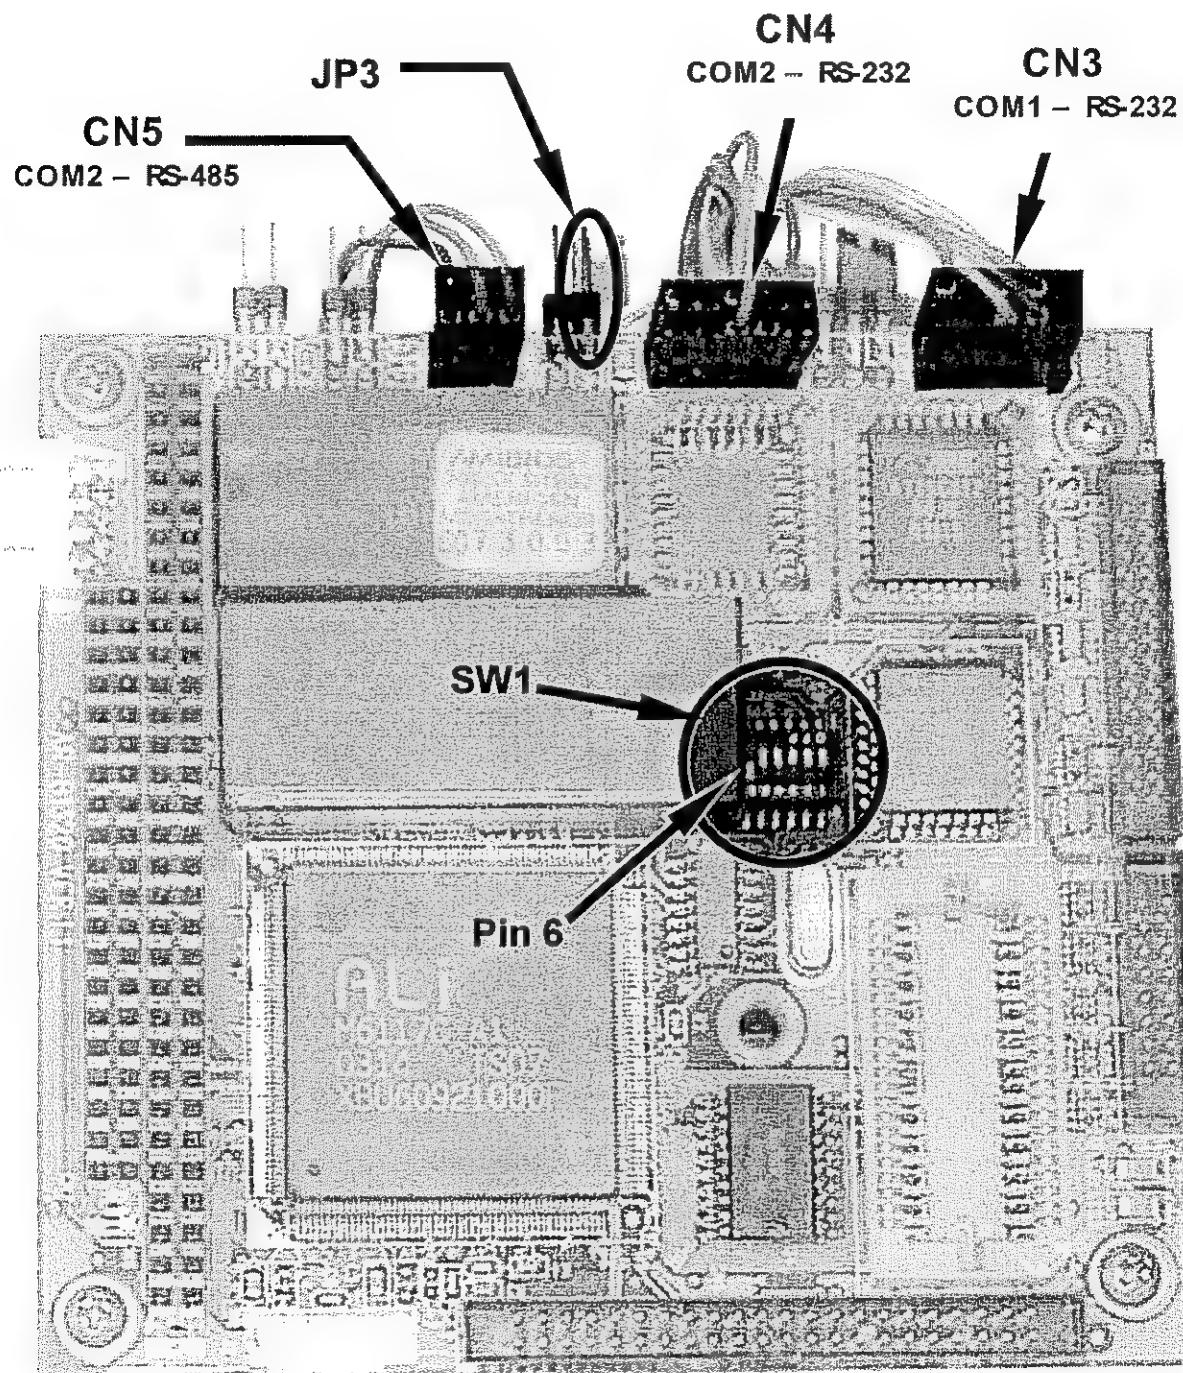

Figure 6-9: CPU card Locations of RS-232/486 Switches, Connectors and Jumpers
- To reconfigure COM2 as an RS-285 port set switch 6 of SW1 to the ON position (see Figure 6-9).
- The RS-485 port can be configured with or without a 150Ω termination resistor. To include the resistor, install jumper at position JP3 on the CPU board (see Figure 6-9). To configure COM2 as an un-terminated RS-485 port leave JP3 open.